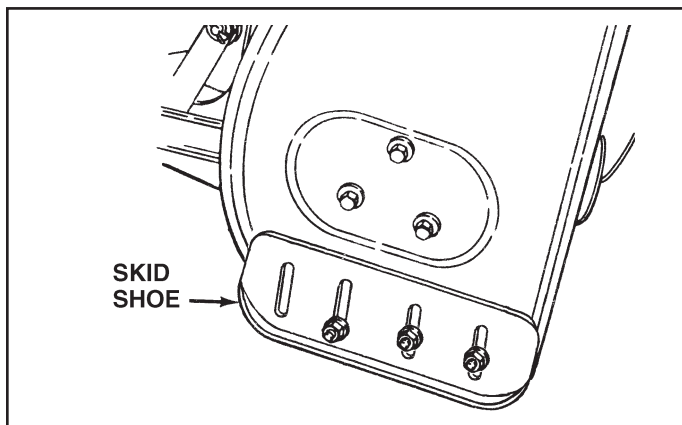

FIGURE 60
(Refer to figures 60 and 61 on page 27)
- Raise the snow thrower off the ground and place a block under each end of the scraper plate. Loosen the six hex nuts securing the skid shoes to the housing. Adjust the skid shoes up or down and retighten the nuts securely. Adjust both skid shoes to the same height to keep the housing and the scraper plate level. See figure 60.